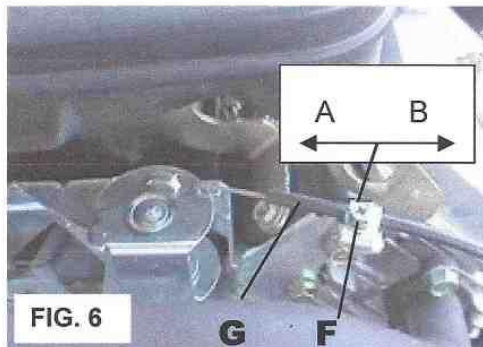

FIG. 6
- 4) Check that the engine is totally accelerated; to do this proceed as follows, referring to fig. 6:
- 5) Check that the rod has completely returned into the accelerator piston and that it is free to move. Should the number of revs differ to the value indicated in paragraph 2 (with a 3-4% variation) it is necessary to proceed as indicated below (fig.6):
- Loosen the fixture screw (F) from the sheathing (G)
- Slide sheath (G) to slide towards side A of the arrow in order to reduce the number of engine revs, and towards arrow "B" to increase the number of revs.